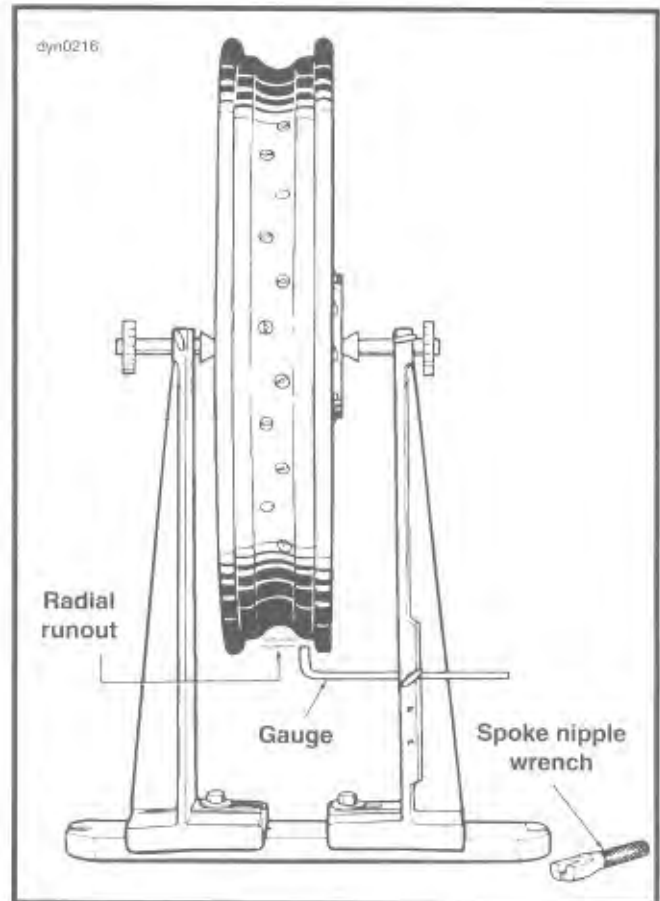

Figure 2-30. Truing Rim Radially
- See Figure 2-30. After rim has been centered sideways it must be checked and trued radially. Adjust truing stand gauge to the rim's tire bead seat as shown. The rim should be trued within 0.030 in. (0.76 mm).